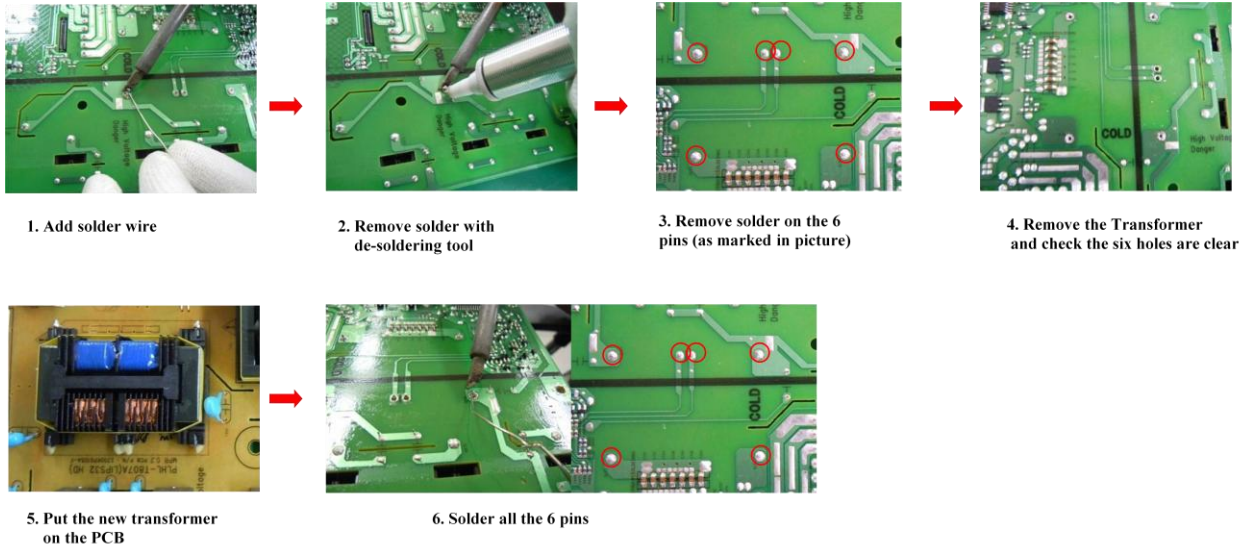

Fig.3 Transformer T701 replacement flow.
2. Replace transformer T701. Refer to Fig. 3 for the replacement flow.